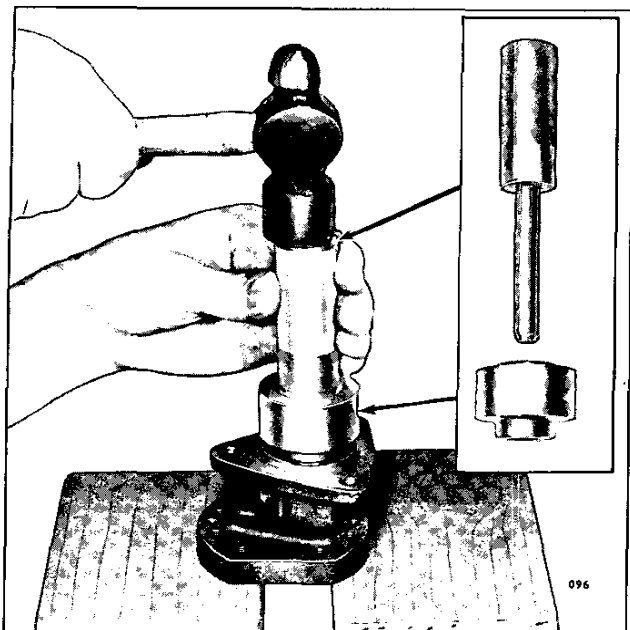

Fig. 8 – Installing Outer Oil Seal Using Tools
- c. Place the shorter end of the adaptor J 1508-9 over the pilot and against the shoulder of the installer handle. Place the outer oil seal on the pilot of the installer handle with the lip of the seal facing the adaptor. Then insert the pilot of the installer handle into the pump body and drive the seal in (Fig. 8) until the shoulder of the adaptor contacts the pump body. Thus the oil seals will be positioned so that the space between them will correspond with the drain holes located in the bottom of the pump body.